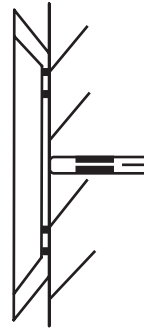

FIG. 2
3. Screw the fixing plate to the wall, with the back flat to the wall. (Fig.2)
3. Drill holes to suit and insert wall plugs if required. Screw the fixing plate to the wall, with the back flat to the wall. (Fig.2)